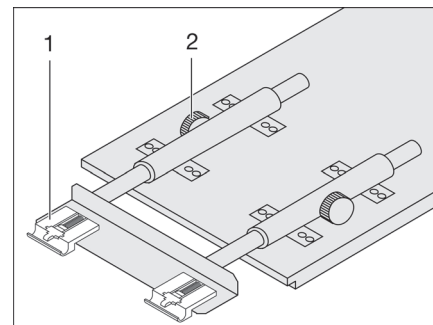

Fig. 53 Extend suspension table
- ▶ Undo the knurled screws (Fig. 53,2).
- ▶ Lift the table-top slightly and pull it out as far as possible. The table extension (Fig. 53,1) is fully extended.
- ▶ Lift the table-top slightly and push it back as far as possible. The table extension (Fig. 53,1) is fully retracted.